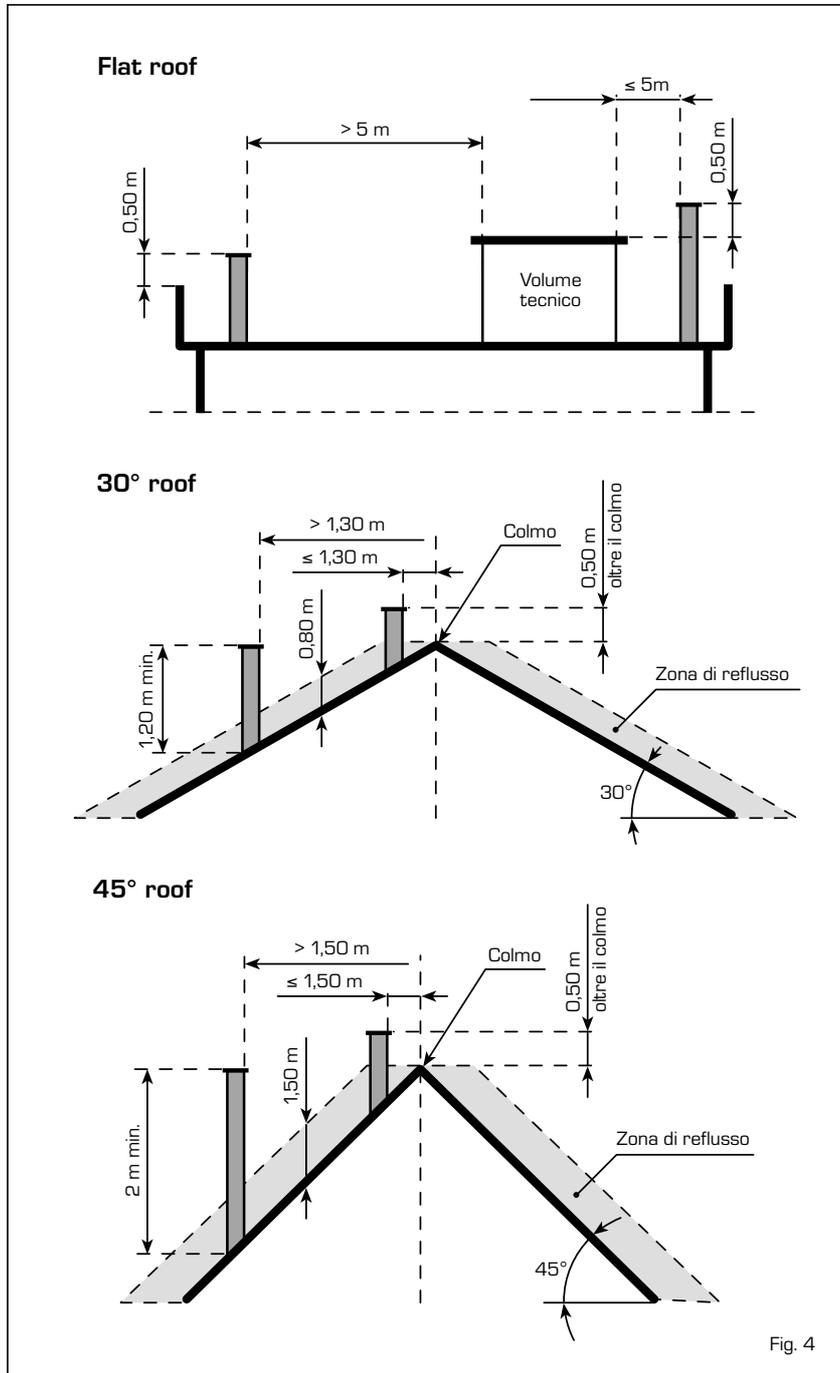

Fig. 4
- fitted with a chimney pot at its top, the outlet of which must be outside of the so-called reflux area to prevent formation of counter-pressure preventing the products of combustion from being freely released into the atmosphere. The minimum heights shown in fig. 4 must be complied with;